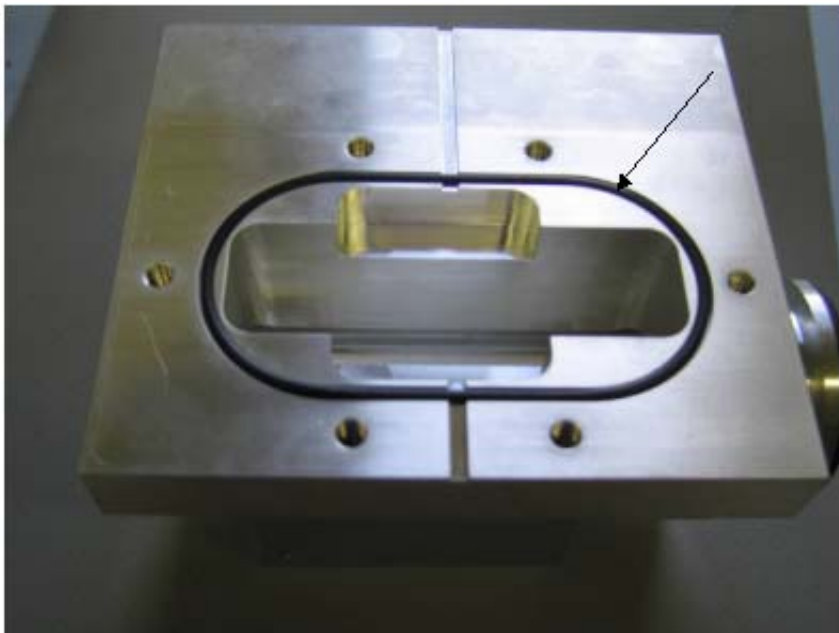

Figure B-53 O-ring
9. Remove the O-ring and discard (Figure B-53).